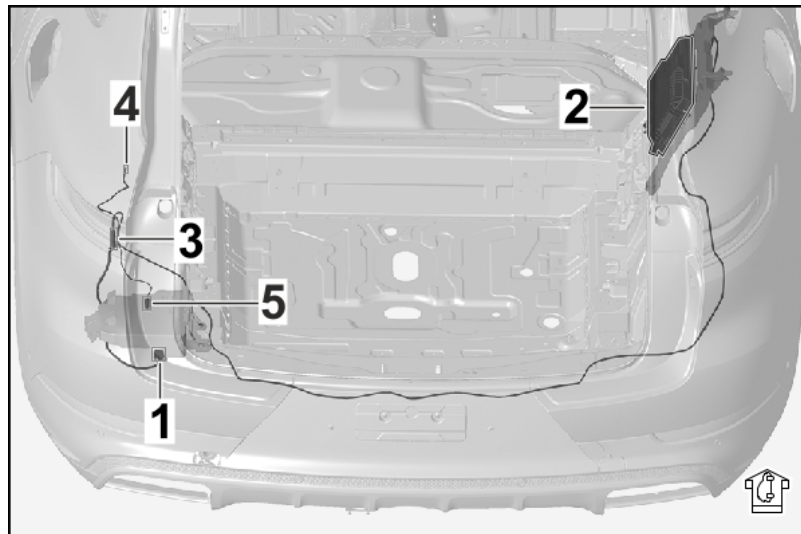
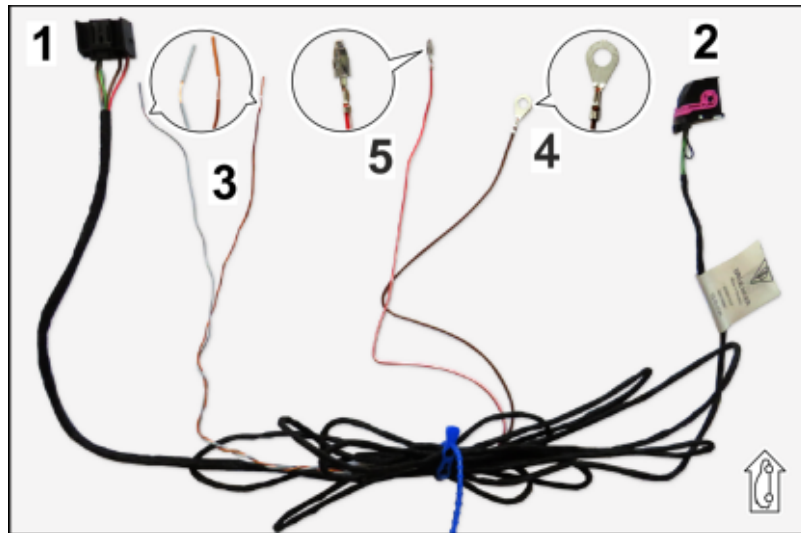

Figure 10
Figure 11
- Course of wire harness for engine noise (interior sound) in luggage compartment ⇒ *Figure 10*
2.4.1 Lay branch for amplifier connection with connector (18-pin⇒ *Figure 11 -2-*) from the engine noise control unit along existing lines on the rear-end plate to the amplifier (9VL/9VJ). ⇒ *Figure 10*